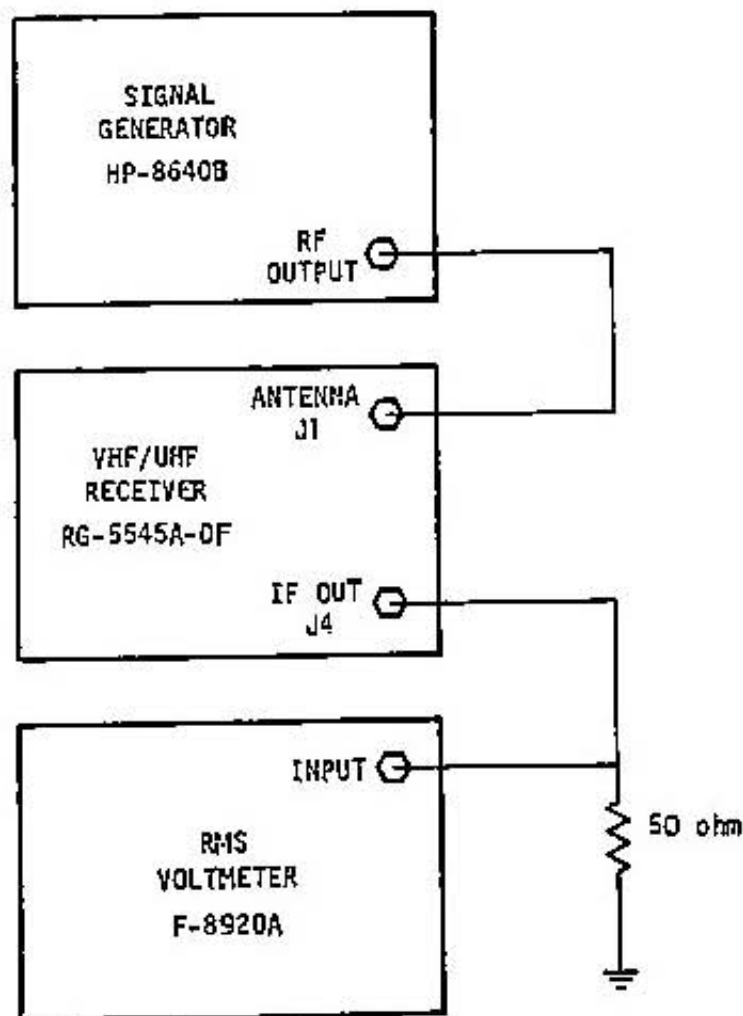

Figure 3. AGC 20 dB Attenuation Adjustment Set-up
a. Connect the 50 ohm termination and RMS voltmeter to the IF OUT connector J4 on the receiver rear panel as shown in Figure 3.
b. Connect the signal generator to ANTENNA-J1 on the rear panel as shown in Figure 3.